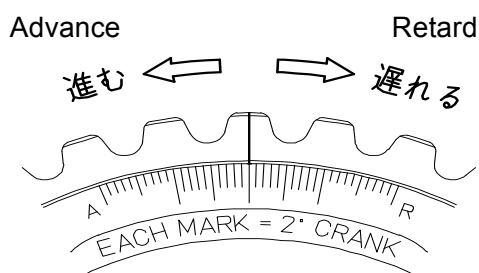

Fig.7 Scale of the Outer Pulley
- Loosen the angle adjusting bolt, turn the outer pulley toward A (Advance); the valve timing is advanced. Turn it toward R (Retard); the timing is retarded. (See Fig.7)